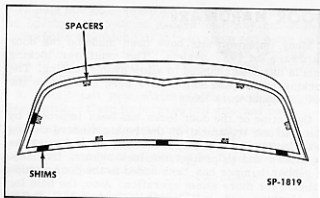

Fig. 42—Checking Windshield Opening
2. Use a thin quick drying cement to temporarily attach the six spacers to the pinch weld flange as shown in Fig. 42. These spacers are to hold the windshield glass in its normal position which is 9/32 inch away from pinch weld flange.
3. Place windshield glass in windshield opening with the four 5/16 inch shims positioned as shown in Fig. 42 to hold glass properly in opening.